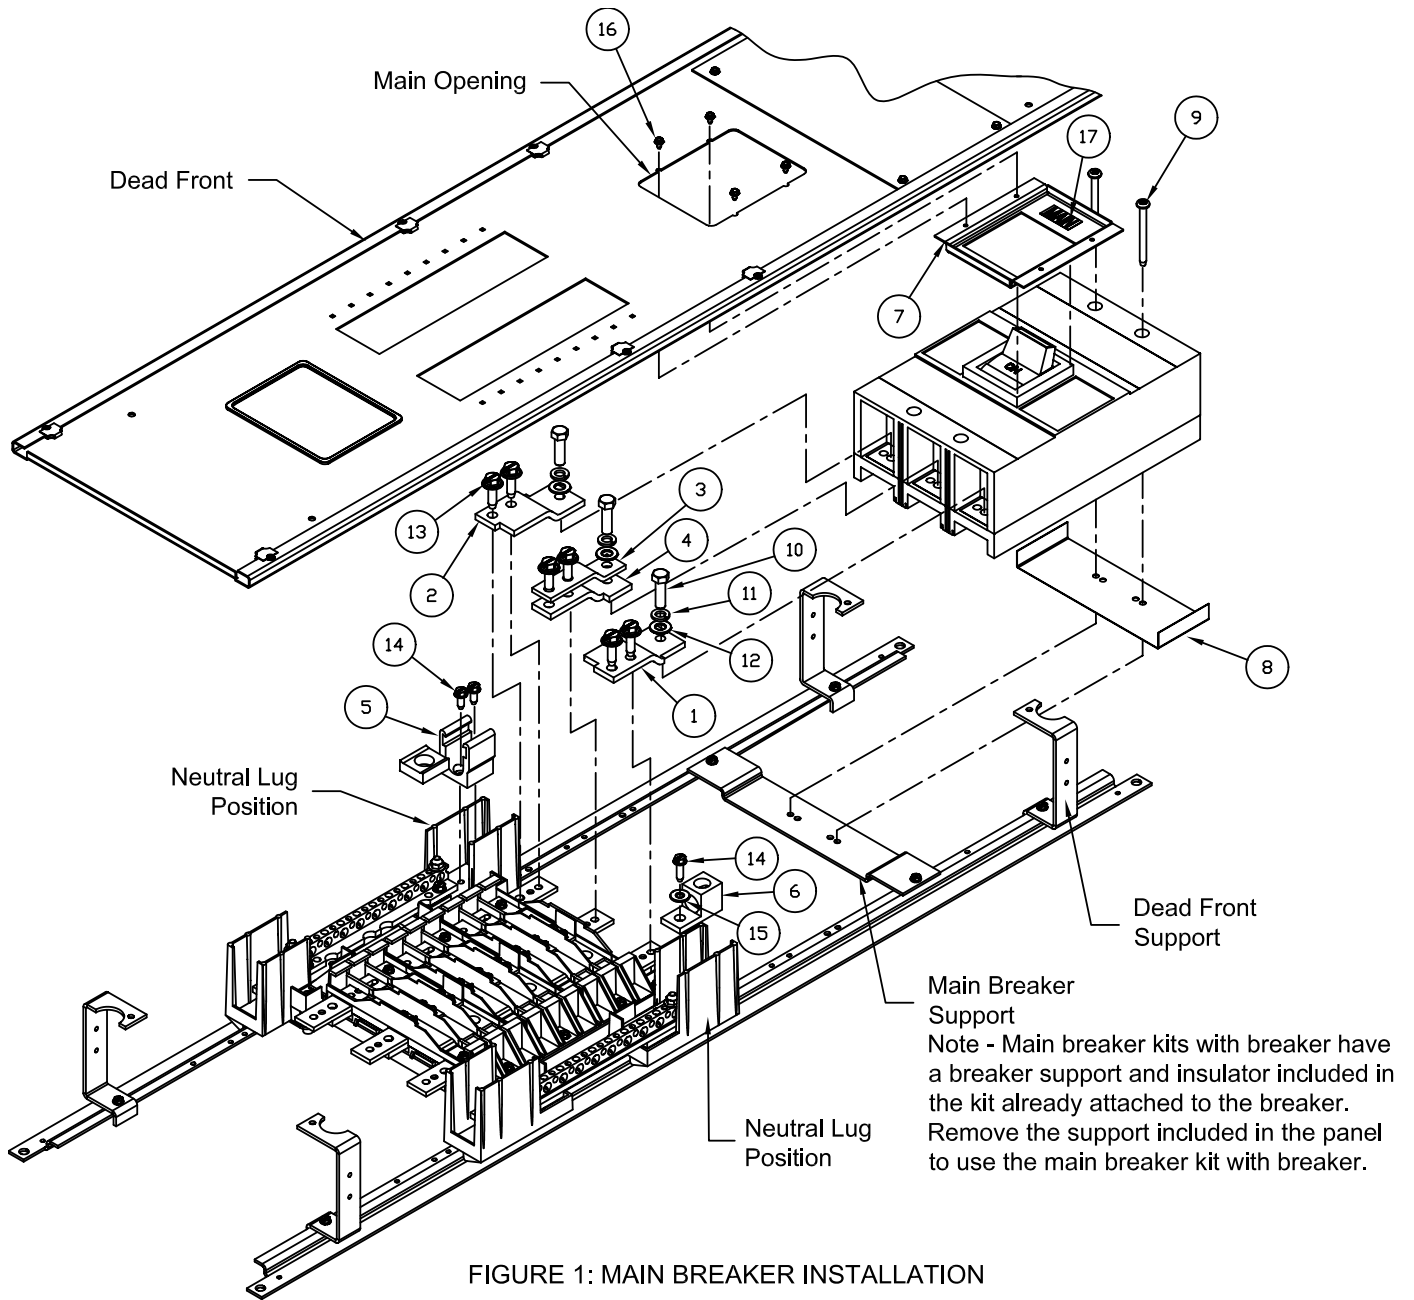
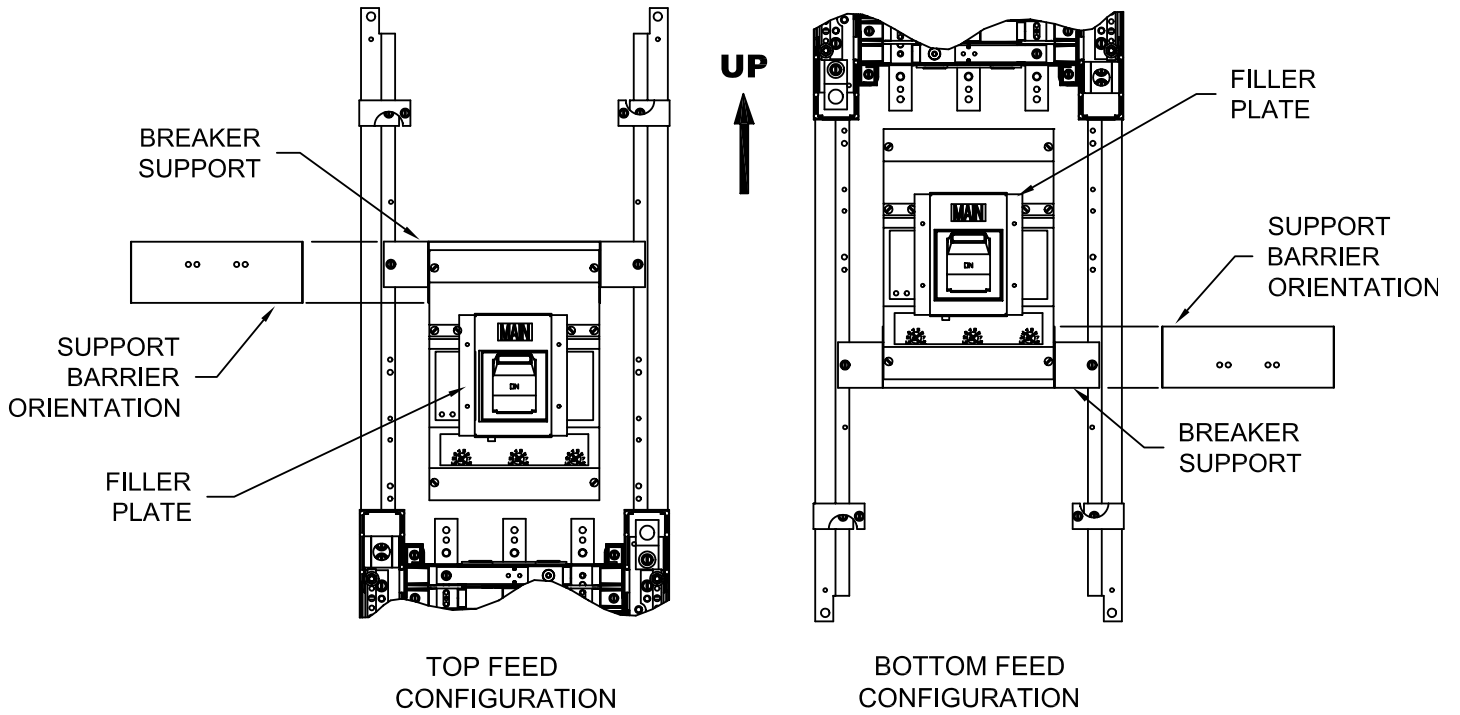

FIGURE 1: MAIN BREAKER INSTALLATION
FIGURE 2: TOP FEED AND BOTTOM FEED KIT CONFIGURATIONS
2. Remove the dead front and main lugs, if installed. Refer to Figure 2 on page 4 to determine the correct breaker mounting for the panel's feed location. Insert the two 1/4"-20 x 2-3/4" self threading screws (item 9) through the appropriate end of the breaker case and through the outer holes on the support barrier (item 8) as shown in Figure 1, to retain the barrier during installation. Fasten the breaker to the support.
3. Position one of the outer breaker connectors (items 1 & 2) so that the single-hole end rests on the breaker pad and the double-hole end rests on the panel section or main bus. Note that the outer connectors are mirror images and are not interchangeable. Attach the connector to the breaker pad using a 3/8"-16 machine screw (item 10), a helical spring lock washer (item 11), and a plain washer (item 12) as shown. Do not tighten at this time. Repeat the process to attach the other outer connector to the breaker.
4. 3 phase panels require a B-phase connection. Stack the upper B-phase connector (item 3) above the lower connector (item 4). Attach the single-hole ends to the center pole breaker pad using identical hardware (items 10, 11, & 12) as for the outer connectors. Do not tighten at this time.
5. Fasten all breaker connectors to the panel section or main bus using two 5/16"-18 thread forming SEMS screws (item 13) per joint. Torque the screws to the value indicated on the tightening torque label on the rear of the dead front.
7. On 1 phase 3 wire systems and 3 phase 4 wire systems, neutral lugs are required. Loosen the wire binding screw in the lay-in lug (item 5), remove the cap plate, and place the lug on the lug pad inside the neutral barrier cavity, as shown. Align the two lug holes with the mounting holes on the lug pad centerline. Fasten the lug with two 1/4"-20 thread forming screws (item 14). Place the tang lug (item 6) in the other barrier cavity, and align its hole with the innermost lug pad hole. See Figure 2 on page 4 for the correct position. Fasten the lug using a 1/4"-20 self threading screw (item 14) with a plain washer (item 15). Torque all lug mounting screws to the values indicated on the tightening torque label on the rear of the dead front.
8. Remove the main lug filler plate from the dead front main opening if present. Refer again to Figure 2 on page 4, to determine the correct orientation of the dead front main filler plate (item 7) for the panel's feed location. Fasten the filler plate to the back of the dead front using four #8-32 screws (item 16) screwed in from the front. Apply the "MAIN" label (item 17) as shown.